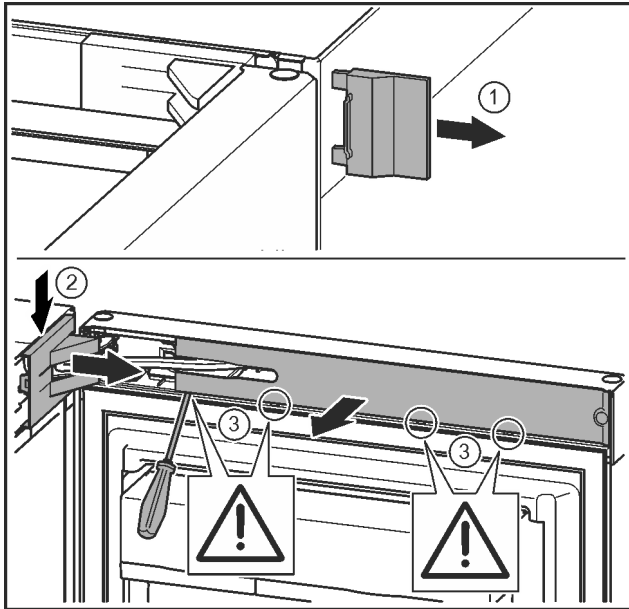

Fig. 7
- Remove the outer cover. *Fig. 7 (1)*
- Disengage and release the bearing bracket cover. Remove the bearing bracket cover. *Fig. 7 (2)*
- Unlatch the panel with a slotted screwdriver and swivel it to one side. *Fig. 7 (3)*